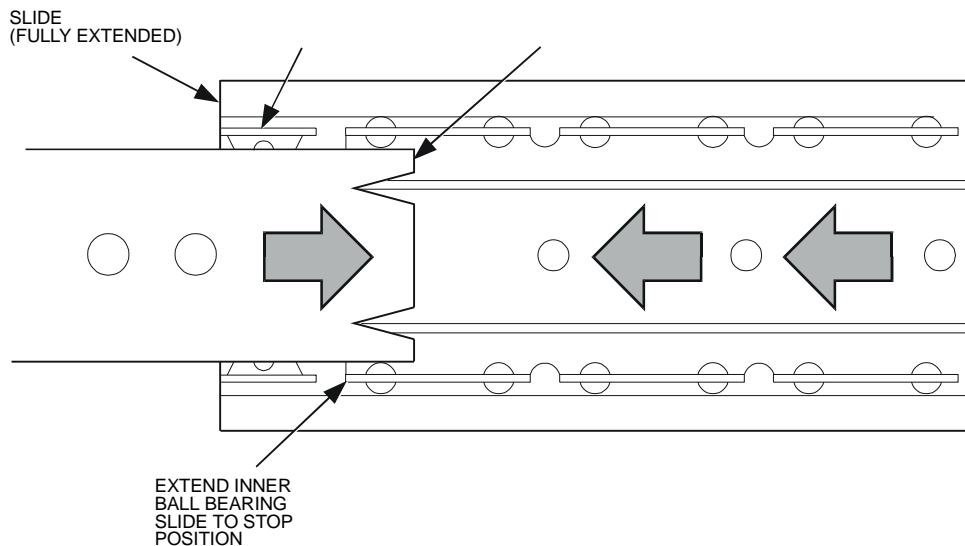

Figure 14. Attaching the Brackets to the Slide Assembly
1. Attach a front bracket to the front end of one slide assembly. (The front brackets are the short brackets.) Verify the screw heads are inside the slides as shown in **Figure 14**. Tighten the screws firmly.
- 8.** Attach a **front** bracket to the front end of the remaining slide assembly. (The front brackets are the short brackets.) Verify the screw heads are inside the slides (see **Figure 14.** on page **31**). Tighten the screws firmly.